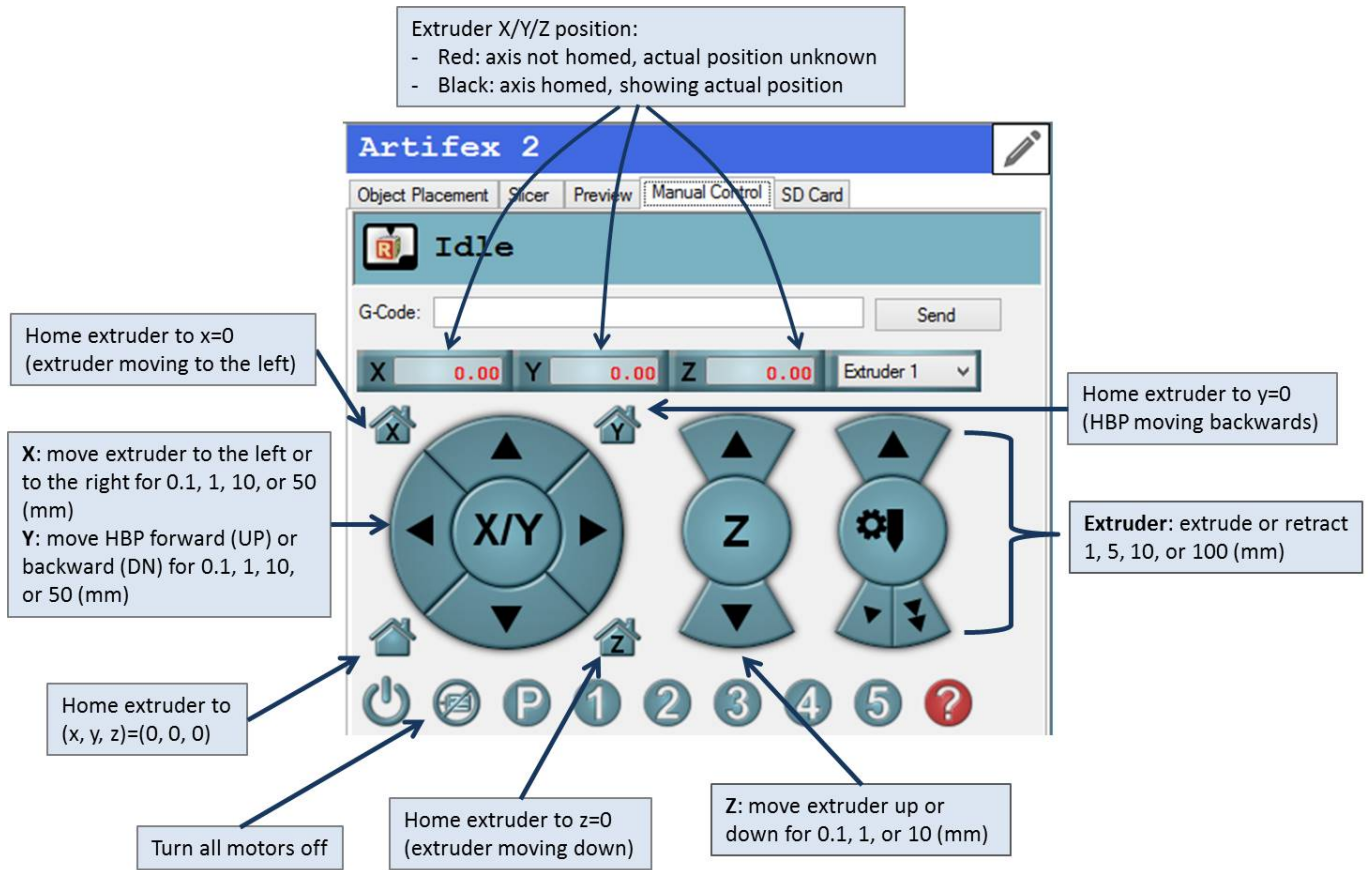

Figure 2.31: Manual control commands for checking X/Y/Z-axis motion
Figure 2.31 shows commands in the Manual Control page of Repetier-Host for mechanical movement.
- Click the “Turn Motor Off” button on the Manual Control page of Repetier-Host interface (Figure 2.31) to turn off power of all motors so you can perform manual operation in the following steps.
- Click the down buttons on the Repetier-Host interface (Figure 2.31) to extrude  $50\text{mm}$  of filament through the filament drive at the speed of  $100\text{mm}/\text{min}$ .